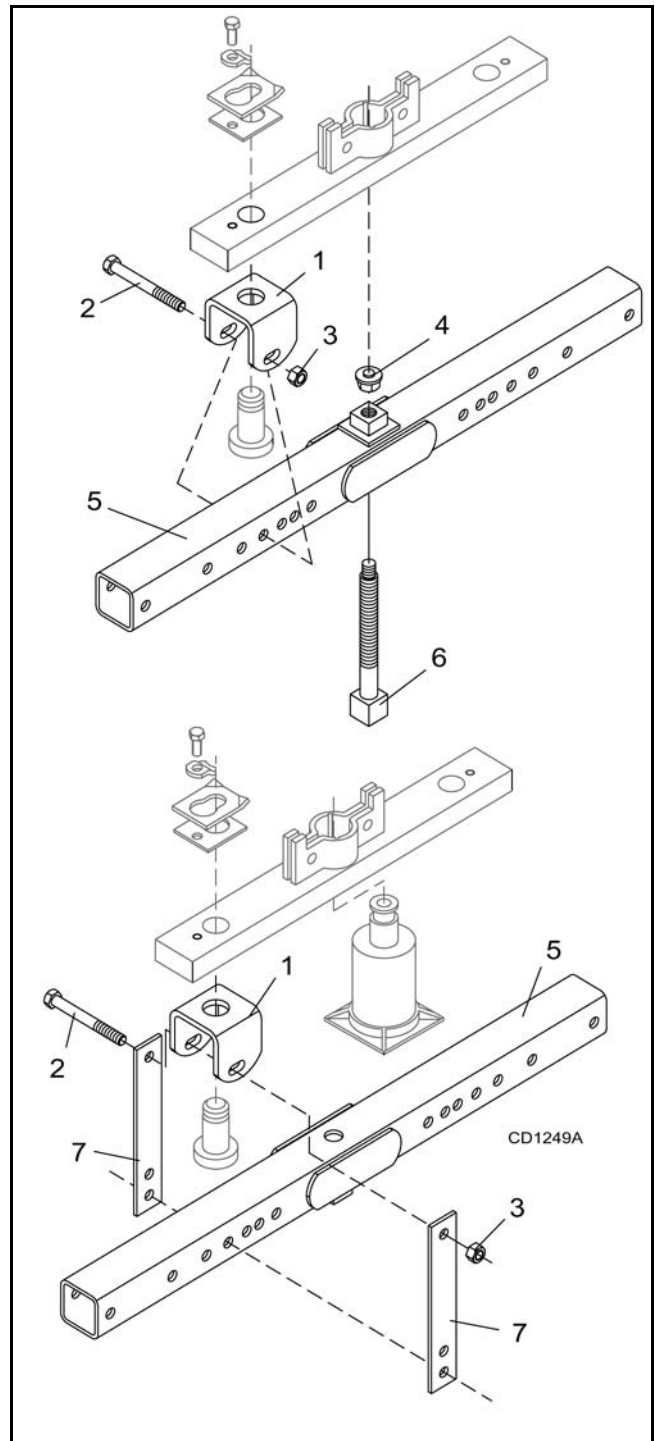

Figure 18. Crossbar Removal
NOTE: You will need to use either the puller screw (Item 6, Figure 18) or a small hydraulic jack to remove the crossbar.
3. Refer to Figure 18. Remove cotter pin from bottom of crossbar and remove nut and washer.
4. Attach a clevis (1) to each end of crossbar, using blade pins, spacers, keyhole plates, and blade pin clips.
5. Position tube assembly (5) with threaded nut toward crossbar for puller screw removal or down for hydraulic jack removal.